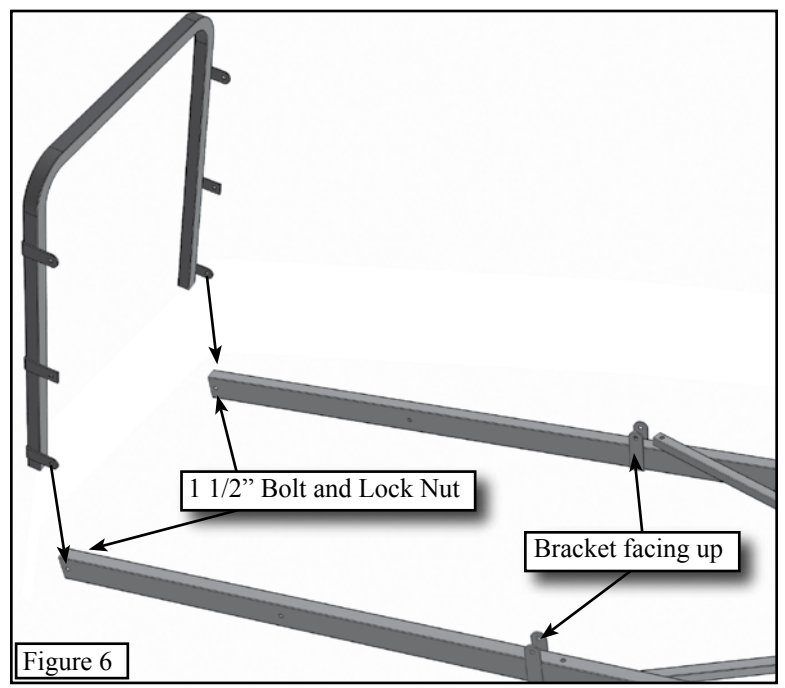

Figure 6
**Step 1.** Orient the Arm Rest and the Top Support Assembly as shown in **Figure 6**.